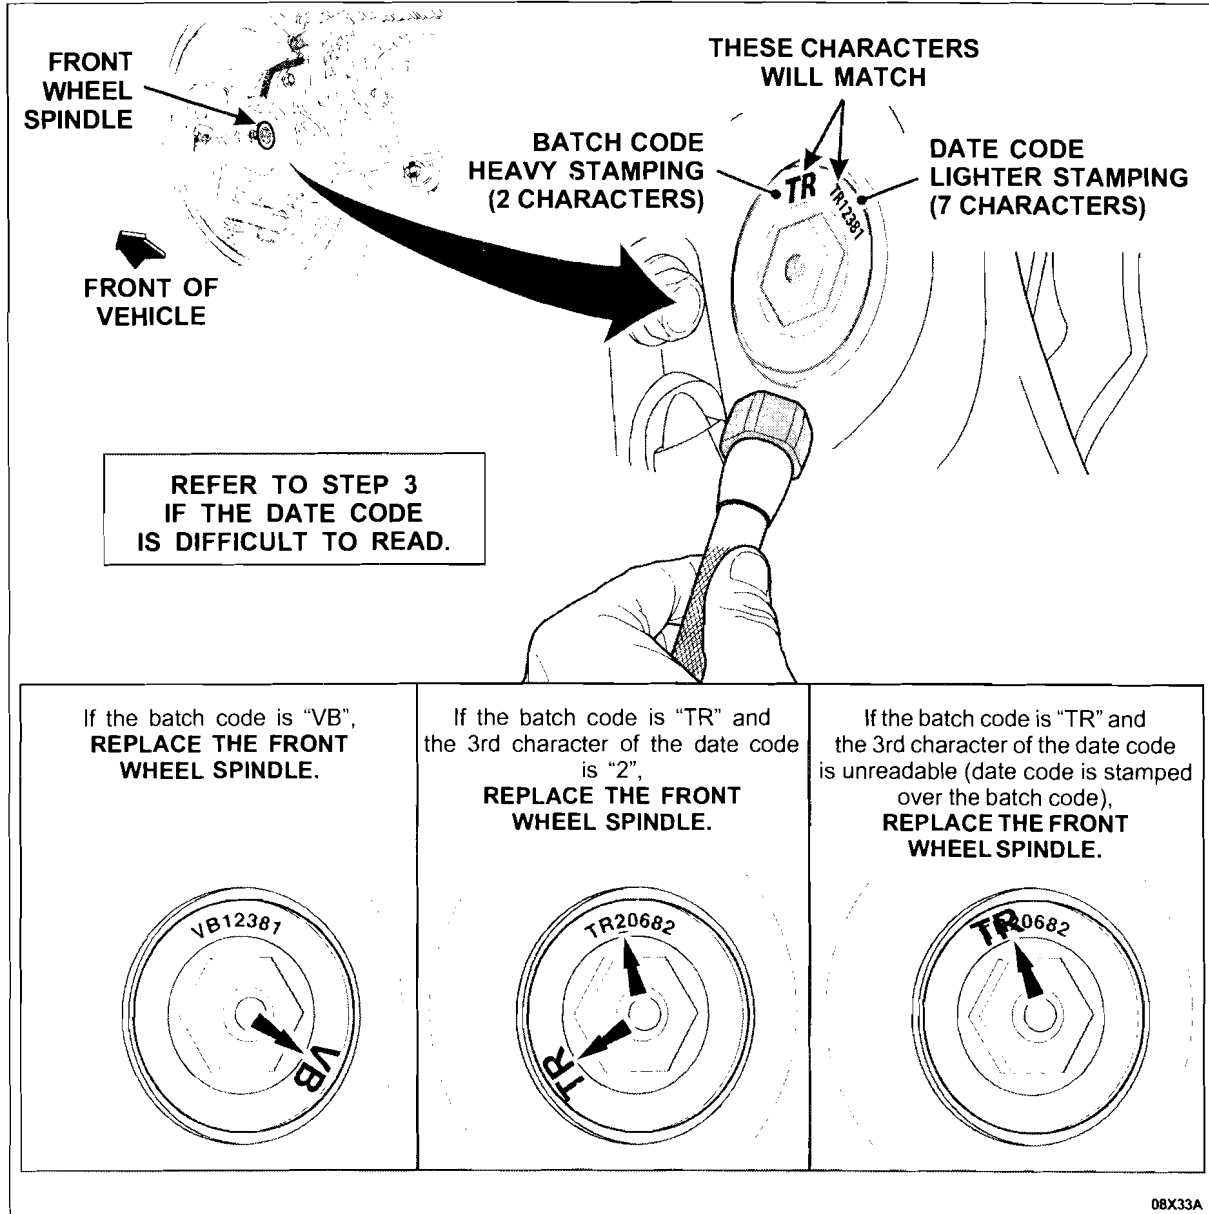

FIGURE 1
- Turn the front wheels so that a clear visual inspection of the inner spindle area can be performed on both the LH and RH front wheel spindles. Using a flashlight, inspect the front wheel spindle batch code and date code. See Figure 1.